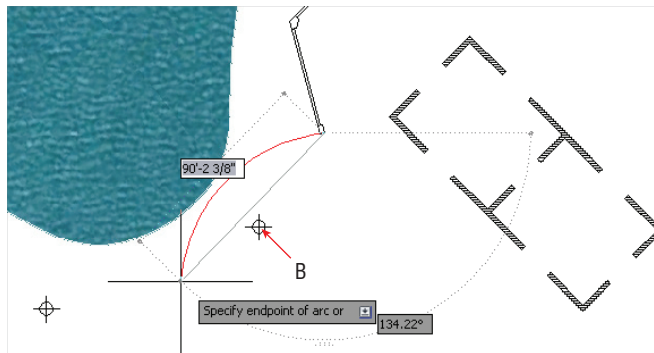

FIGURE 5.2 The direction of the default polyline arc opposes the curvature of the lake.
3. Toggle off Ortho mode if it is on. Observe that the arc you are drawing may curve the wrong way, against the curvature of the lake (see Figure 5.2). The command prompt reads:
4. Type **S** (for Second Point), shown as B in Figure 5.2, and press Enter. Normally, polyline arcs are defined by two points, and by using the second point option, you are choosing the arc to be formed by three points so that you can determine its direction of curvature.
5. Right-click the Object Snap toggle in the status bar and select Node. By turning on Node running object snap, you will be able to snap arcs to all the point objects surrounding the lake. Turn on Endpoint running object snap if it is not already on. Click B as shown in Figure 5.2.